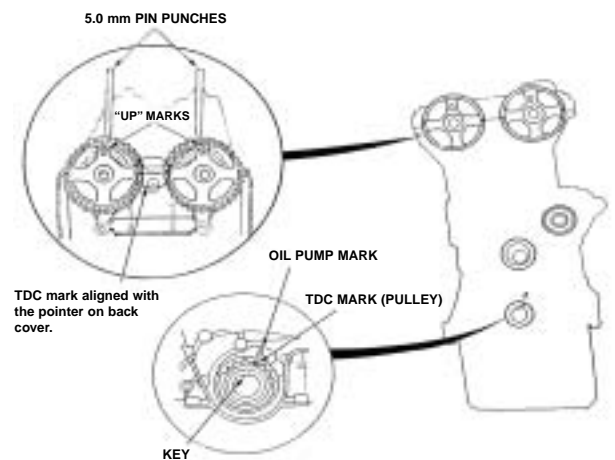

Figure 1
1. Position the crankshaft and the camshaft pulleys as shown in Figure 1 before installing the timing belt.